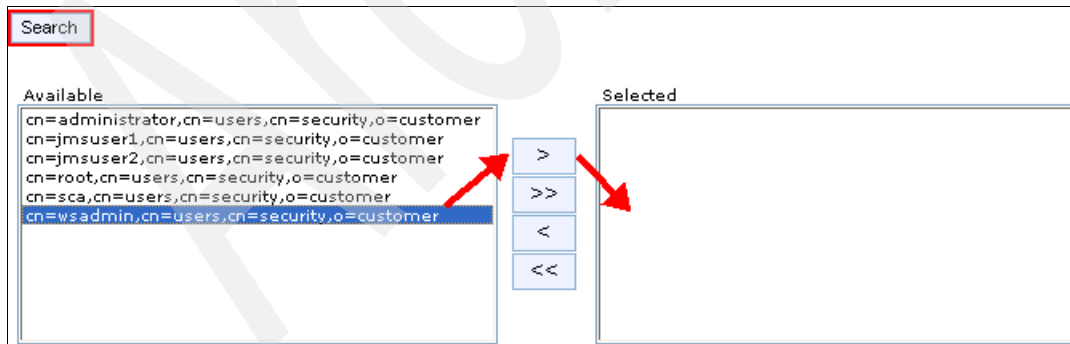

Figure A-57 Configure Business-Manager user
3. In the next panel (Figure A-57):